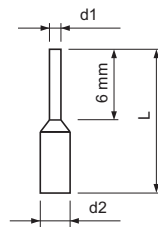

Figure 28 Ferrule Dimensions
- <2> Connect a flywheel diode as shown in the Figure 28 when driving a reactive load such as a relay coil. Make sure the diode rating is greater than the circuit voltage.